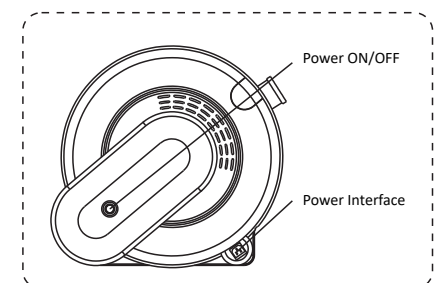

Figure 7.1.2
a) One end of the power cord is plugged into the terminal board at the bottom support of the right side of the machine, and the other end into the socket of 220V / 50Hz with reliable grounding. See fig. 7.1.2.
b) The power switch is located at the batter brace of the right side of the machine. See fig.7.1.2. It is the on/off switch of TOOTOO UC-1803 ICU.